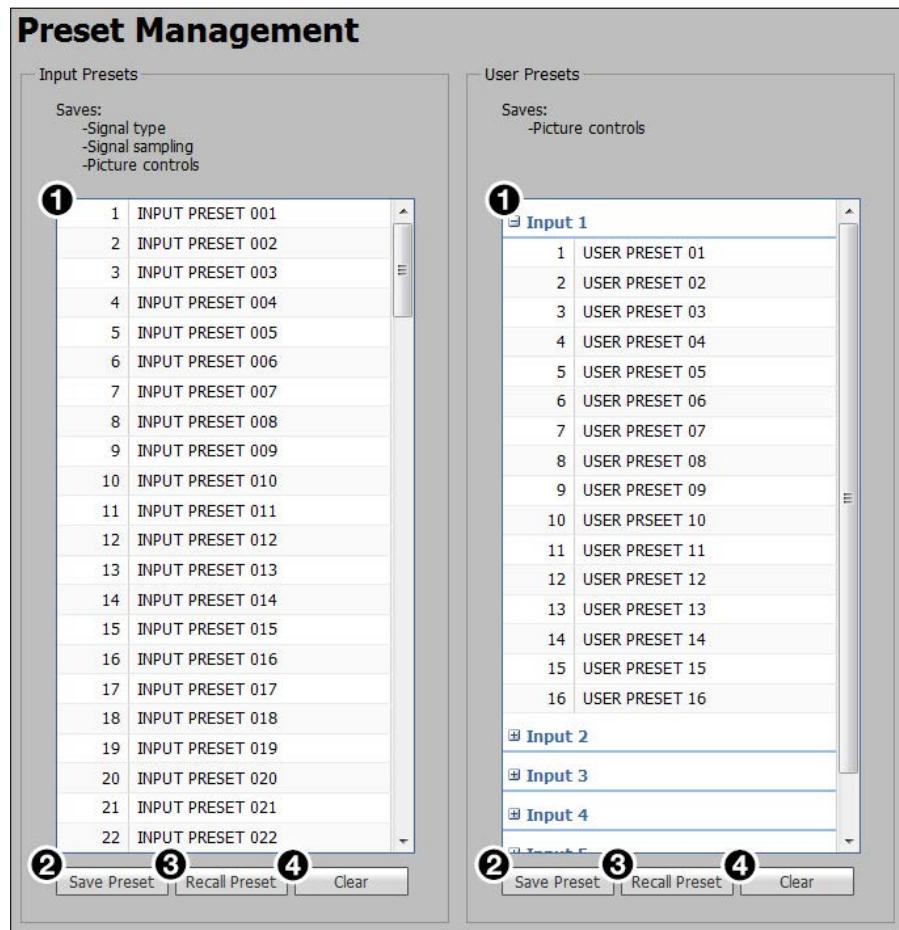

Figure 80. Preset Management Page
1. Select the input preset or user preset (see figure 80, 1) to store the current configuration.
2. Click the **Save Preset** button (2) located in the same Input Presets or User Presets panel. If the selected preset already has stored information on it, a confirmation dialog box opens.
1. Select the input preset or user preset (see **figure 80**, 1 on the previous page) to be cleared.
2. Click the **Clear** button (see **figure 80**, 4) located in the same section of the screen. A confirmation dialog box opens.
1. Double-click a **Preset Name** or right-click a **Preset Name** (see **figure 80**, 1) and select **Rename**.